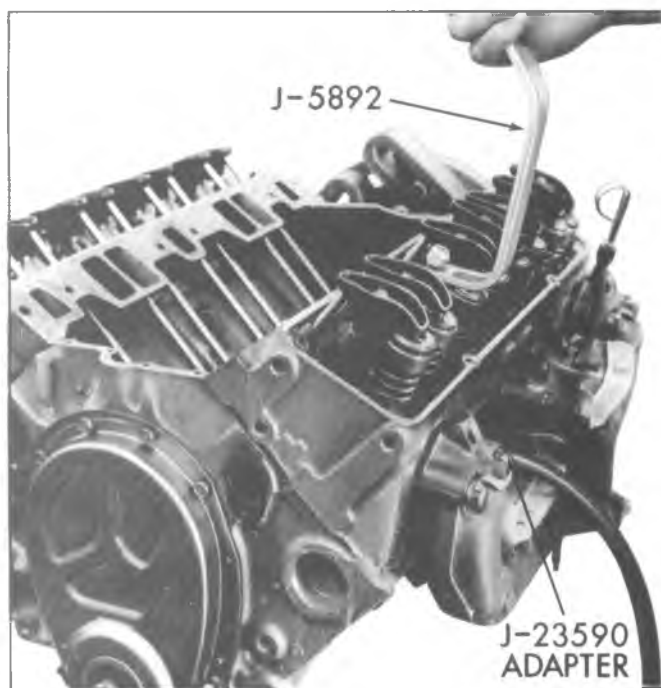

Fig. 6A4-13-Compressing Valve Spring
4. Using Tool J-5892 to compress the valve spring, remove the valve locks, valve cap, oil shedder and valve spring and damper (fig. 6A4-13).